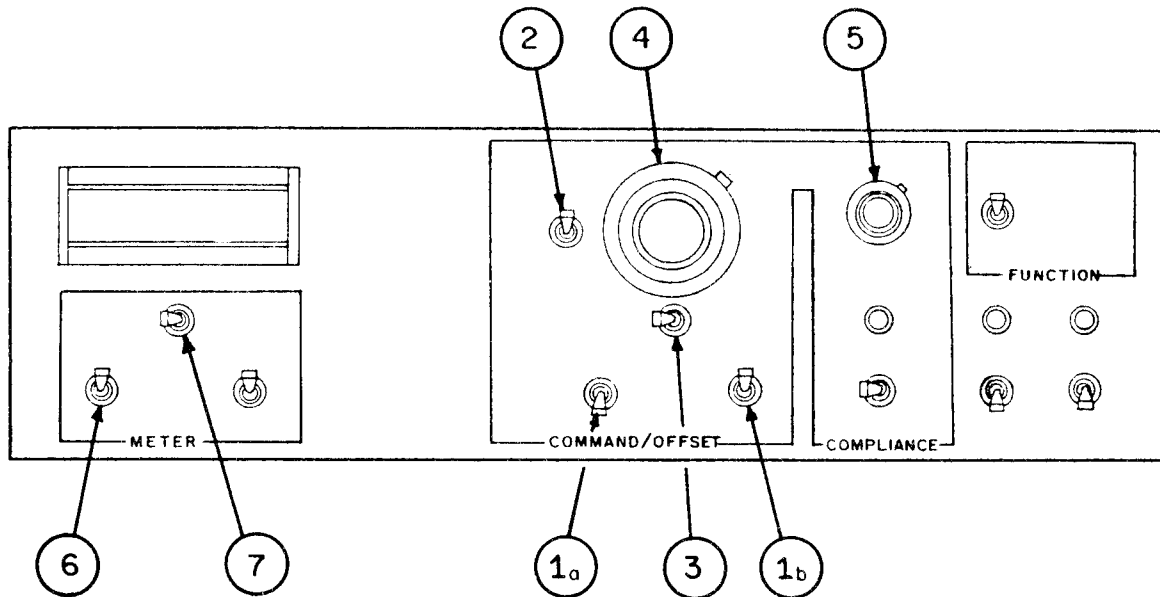

Figure 55. Example of Front Panel Settings
e. To perform a current operation in the SUPPLY mode, given a random value of + 80 μ A, set the controls as follows (see Figure 55):